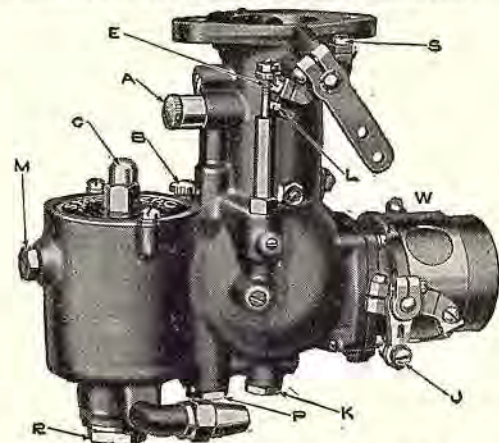

Fig. 25. Stromberg type "OE" plain tube carburetor. A vertical, single-control carburetor.
The proper float level with engine not running is one inch from the top surface of float chamber casting or just even with the bottom of hole in which plug (M) (Fig. 25) is inserted.
Should the level be more than one-sixteenth of an inch higher or lower than bottom of hole the float needle should be readjusted. Remove valve cap (C, Fig. 25) and upper end of float needle stem will be seen.
The float level of OT is adjusted by slightly rotating screw under cap (C) (Fig. 25 A). It is an eccentric adjustment on the float pivot. By unscrewing cover the adjustment can be observed. The correct level is $1\frac{1}{4}$ " below top of float chamber with cover removed.
Single control means that there is one pull button on dash which connects with the air choke lever (J) (Fig. 25) to enrich the mixture for starting.
Fig. 25B. Stromberg type OX plain tube carburetor. A vertical, single control carburetor. This type differs from the OE principally in the arrangement of flange. The names of the parts are the same as in the OE (Fig. 25).